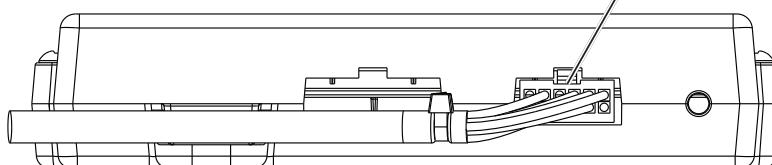

Figure 1
2. Install the control panel assembly into the opening on the dash, and secure it with (4) #8 x 1/2" wide head screws (See Photo 2, below).
3. Reinstall the trim bezel, then secure it with the (4) OEM screws (See Photo 3, below).
5. Plug the control harness into the ECU on the evaporator module (See Figure 1, below).